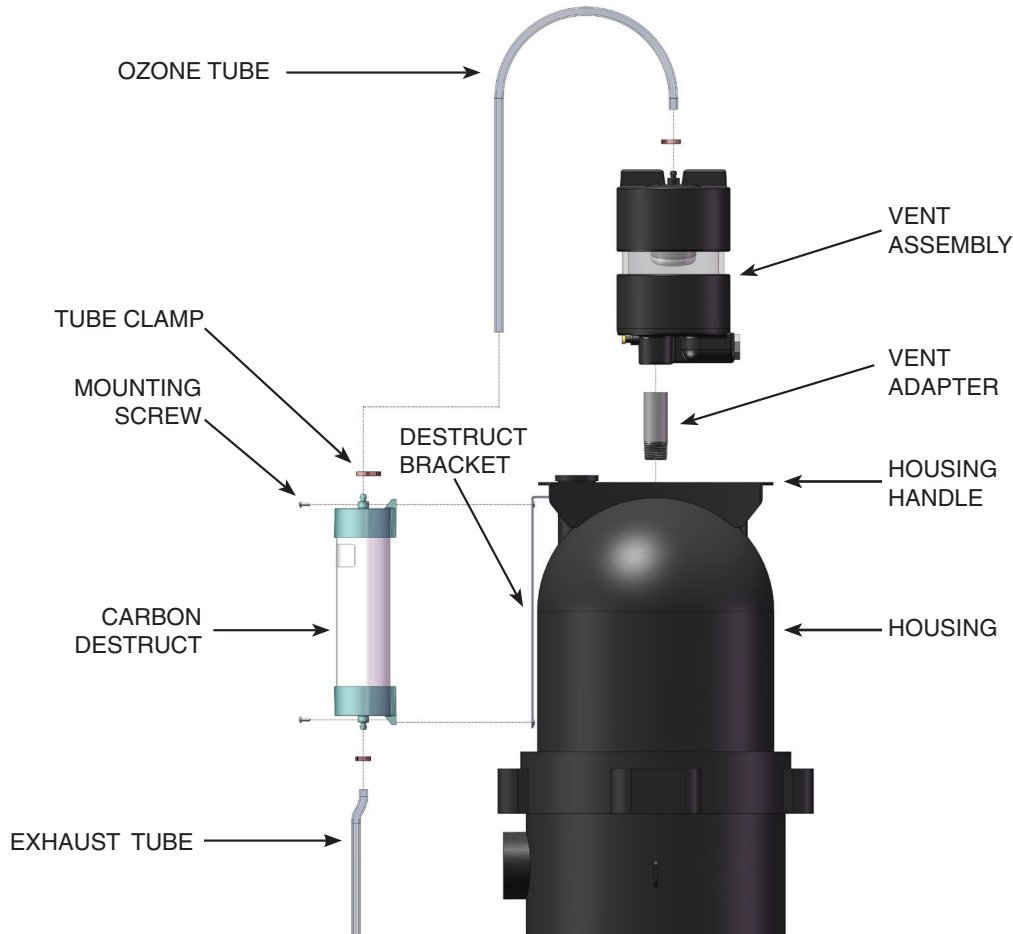

Figure 3: Assembly Components
2. Apply thread sealant to Vent Adapter threads. Install Vent Adapter through the hole in the Housing Handle and into the Housing as shown in Figure 3.
3. Use PVC primer and PVC glue to attach the Vent Assembly to the open pipe end of the Vent Adapter. Orient the Vent Assembly as shown in Figure 3.
4. Mount the Carbon Destruct to the Destruct Bracket with the two Mounting Screws provided as shown in Figure 3.
5. Connect the Ozone Tube and Exhaust Tube using the Tube Clamps as shown in Figure 3. Tubing Clamps should be tightened behind the hose barb feature for proper attachment.